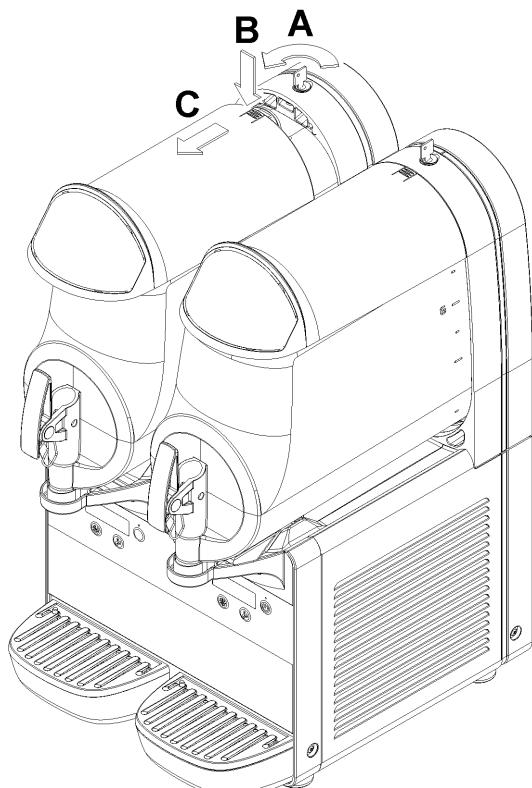

figure 2
- To remove the lid of the container, press the top key and slide the lid towards the front of the container. If there is a safety lock for the lid, turn the key in an anti-clockwise direction to release the open key (see figure 2).
If there is a safety lock for the lid, turn the key in an anti-clockwise direction to release the open button (see figure 2).